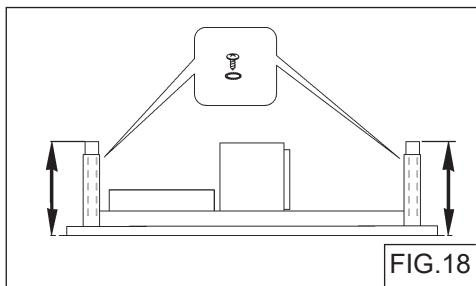

FIG.18
- 2. Adjust height of the telescoping support frame and secure with screws and washers. Fig.18.